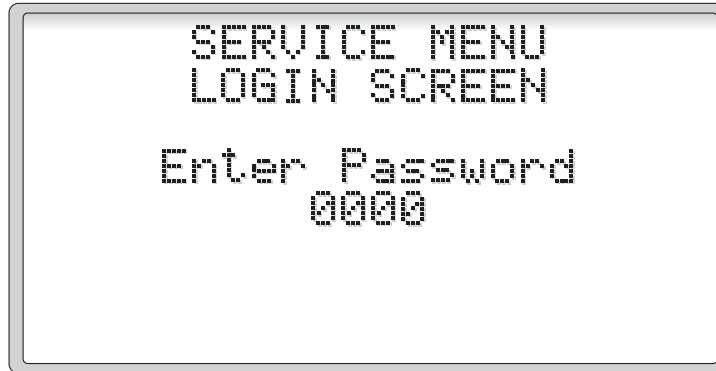

Figure 19
2.3.4 Service Menu (Figures 19 and 20)
Selecting the SERVICE MENU will display the Login Screen (Figure 19). Enter the service password, 1234 and press **ENTER**.